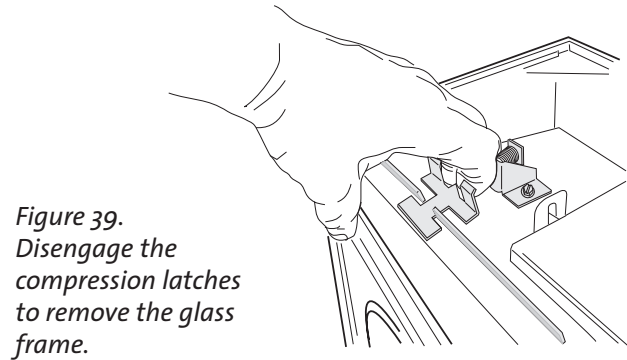

Figure 39. Disengage the compression latches to remove the glass frame.
- 2. Remove the Glass Frame.** Disengage the two compression latches located at the top of the firebox and lift the glass frame up and off of the stove. See fig. 39.